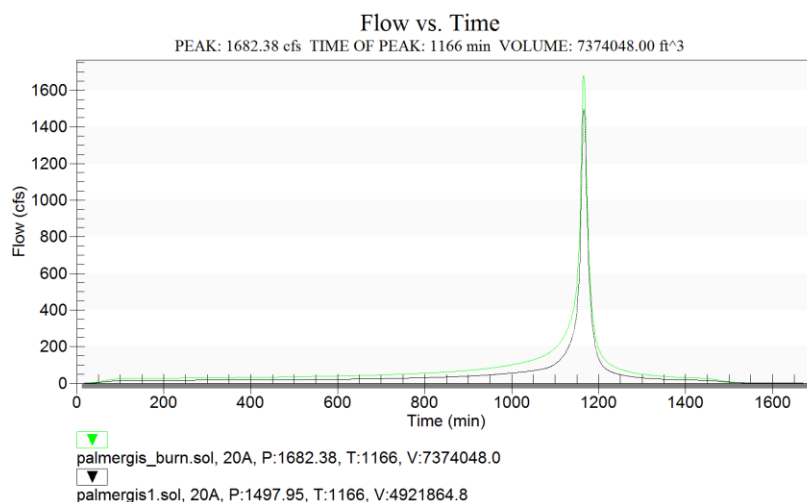

Figure 9-1: Burned/original hydrographs for MODRAT simulation
19. The plot will contain the original hydrograph (from the previous run) and the new hydrograph from the burned simulation (read in from the new *.sol file). It should look similar Figure 9-1.